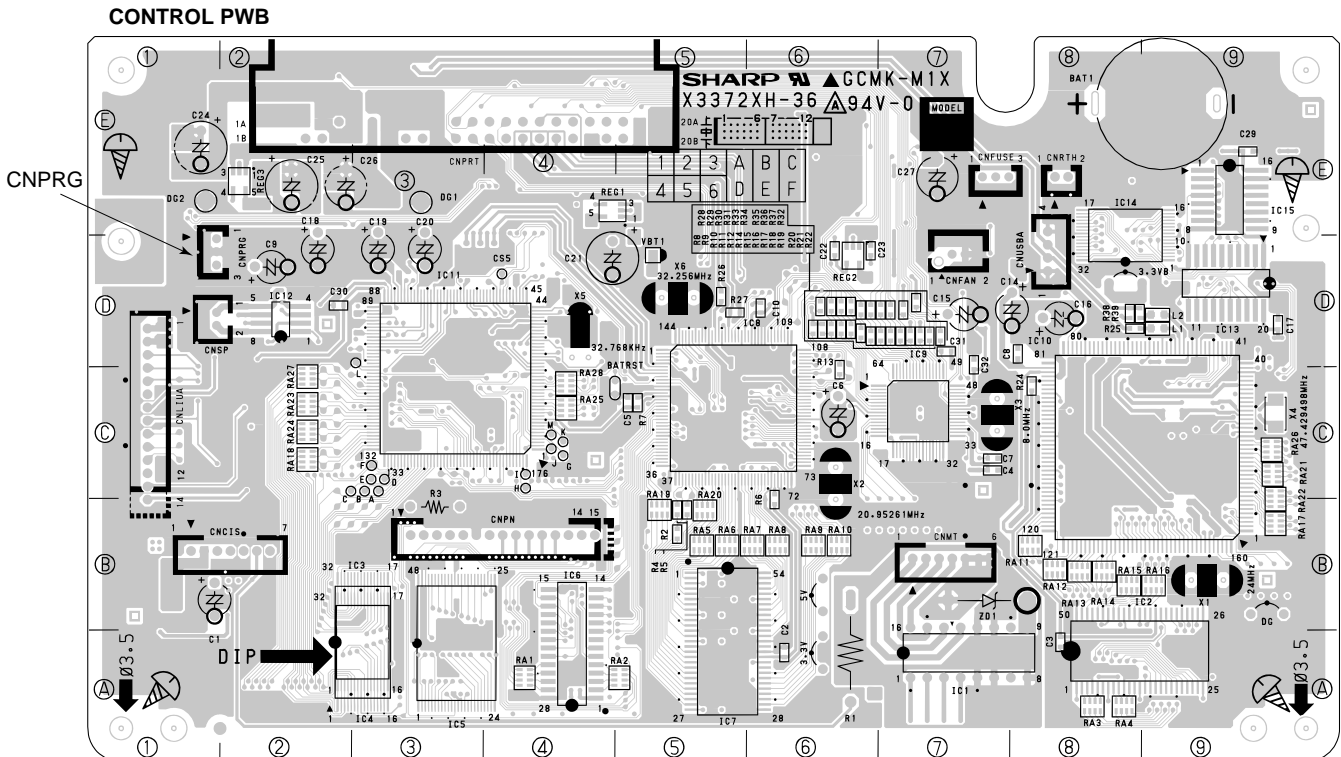

Fig. 4 Connection of Main Cable
- 2) Connect one end of Main Cable to the connector of the control PWB connector for the FAX machine (CNPRG)(refer to Fig.4) and the other end to CN1 of Program loader BOX.